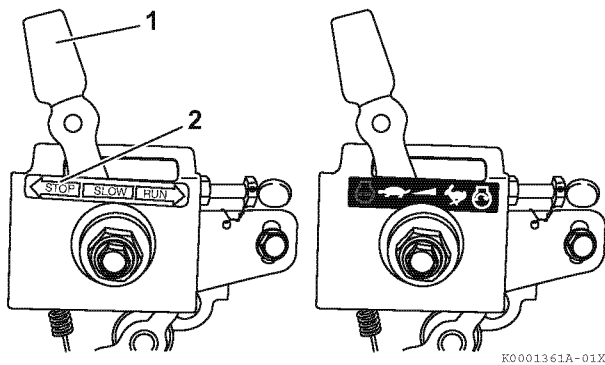

Figure 18
1. If your engine speed control is similar to **Figure 18** slide the engine speed control lever (1, **Figure 18**) to the STOP position (2, **Figure 18**).